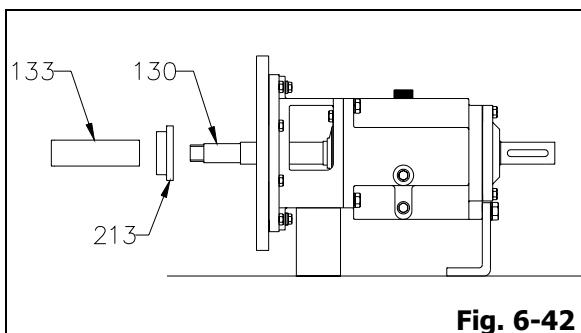

Fig. 6-42
4. Remove shaft sleeve (133) and gland (213) from shaft (130) (Fig. 6-42).